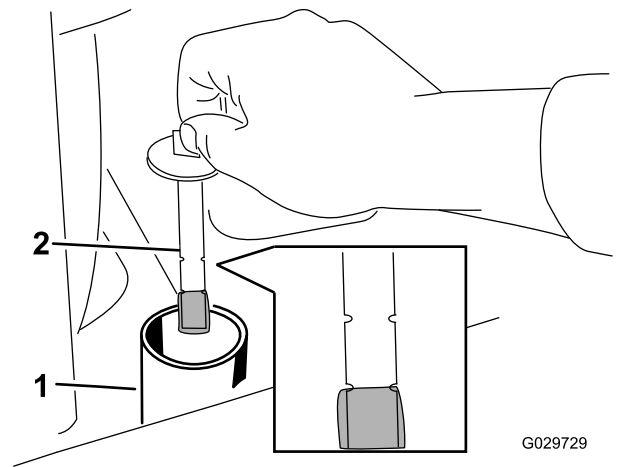

Figure 71
8. Remove the filler-neck cap and check the fluid level on the dipstick (Figure 71).